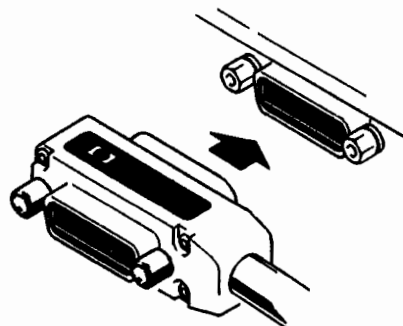

Figure 2-7. Fitting the HP-IB Cable.
- C. Connect one end of the HP-IB cable to the socket (item 2 fig. 2-3) on the rear panel of the tape drive. The plug can only be fitted one way round (see fig.2-7).